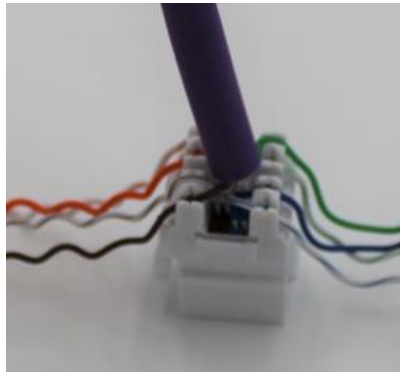

Fig. 14
4.3 Position the wires in the IDC. Fig. 14